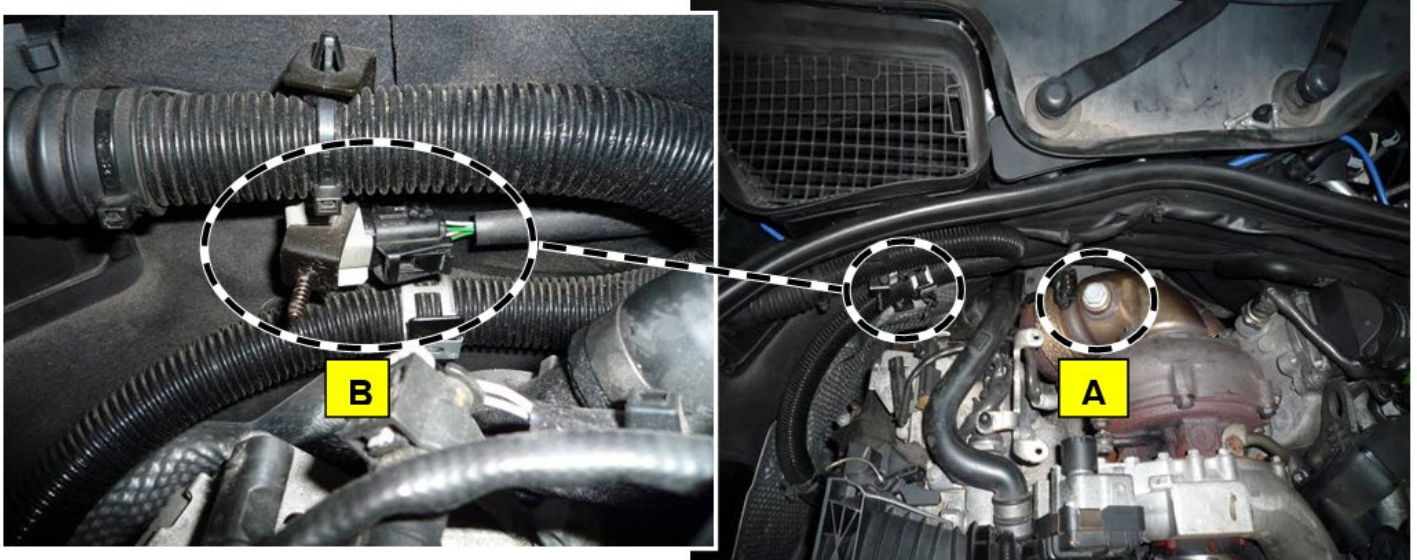

Figure 2
6. Install screw plug (N 007 604 018 109) and sealing ring (A 021 997 62 45) on the turbocharger (Nm 50, Figure 2,A).
7. Install the plug housing (A 000 545 40 39) on the electrical connection for the oxygen sensor (**Figure 2,B**).